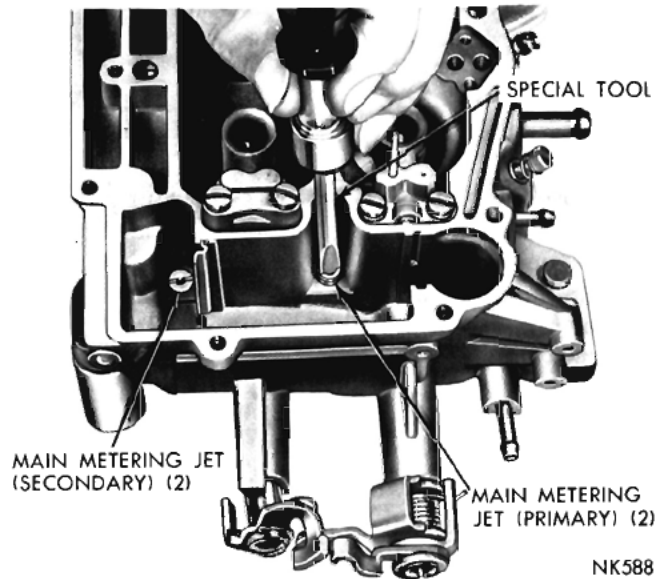

Fig. 4—Removing or Installing Main Metering Jet
(2) Using Tool T109-58, remove the main metering jets (primary side), as shown in (Fig. 4). **The primary and secondary main metering jets are not inter-**
(3) Again using Tool T109-58, remove the main metering jets (secondary side), as shown in (Fig. 4).
(7) Install the primary and secondary main metering jets, using Tool T109-58. Refer to (Fig. 4). Tighten jets securely.
(8) Install the accelerator pump intake check ball using Tool T-109-59.